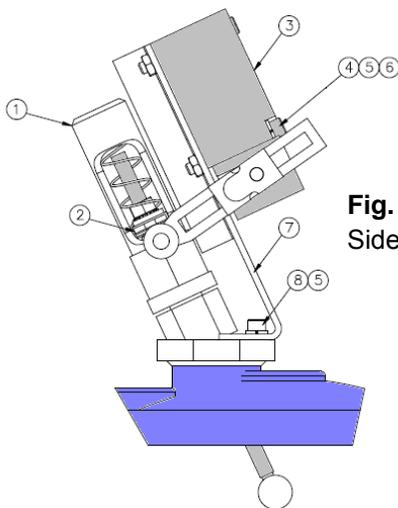

Fig. 5a
The limit switch option (Model 745LS) is factory installed or field installed (see Fig 5a & 5b) on the valve access cover and is used in conjunction with the Position Indicator (PI). A standard limit switch (Honeywell Model LSH1A or Equal) is mounted on an epoxy coated steel bracket for easy wiring, field adjustments and servicing. The limit switch is SCADA (Supervisory Control and Data Acquisition) compatible for applications requiring open/close indication.